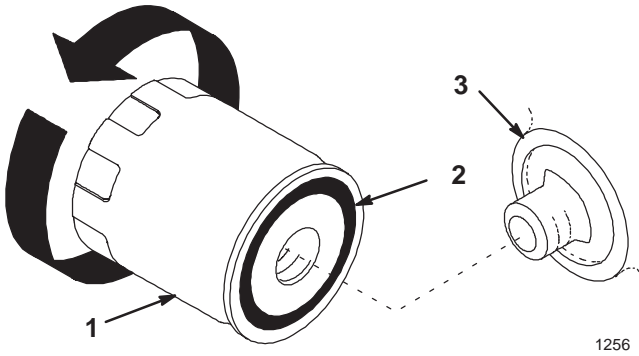

Figure 47
2. Remove the transaxle filter and wipe the filter adapter (Fig. 47) gasket surface.
3. Apply a thin coat of new oil to the rubber gasket on the replacement filter (Fig. 47).
4. Install the replacement transaxle filter to the filter adapter. Turn the filter clockwise until the rubber gasket contacts the filter adapter, then tighten the filter an additional 3/4 turn (Fig. 47).